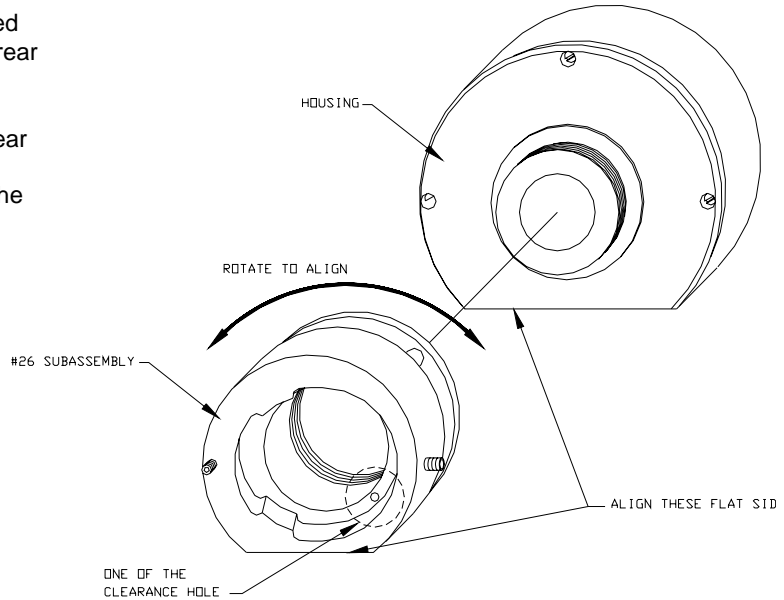

Figure 4
- Through one of the two clearance holes in rear mount, tighten the set screw-3 which is installed onto #100 mount. This will secure the rear mount sub-assembly into place. (see Figure 4,5)